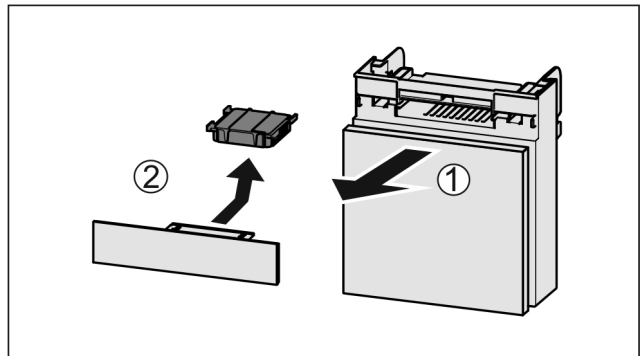

Fig. 111
- Pull out the compartment Fig. 111 (1).
- Remove the carbon filter Fig. 111 (2).